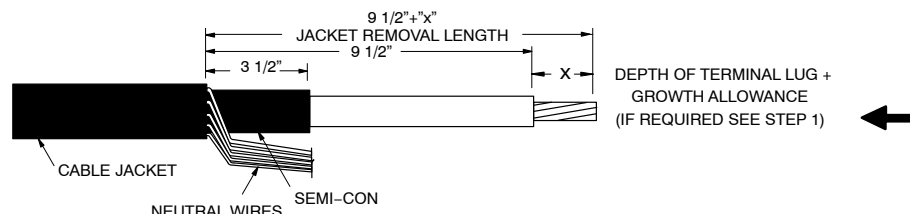

FIGURE 1
1. Train cable into position and cut to required length. Strip the cable to the dimensions shown in Figure 1. Check the lug being used to determine insert depth "X". Provide an additional 1/2" of exposed conductor on 500 kcmil and smaller cables and 3/4" of exposed conductor on 750 kcmil cables. This will accommodate growth during crimping of aluminum lugs. If a shearhead bolt lug is used, additional exposed conductor is not required.